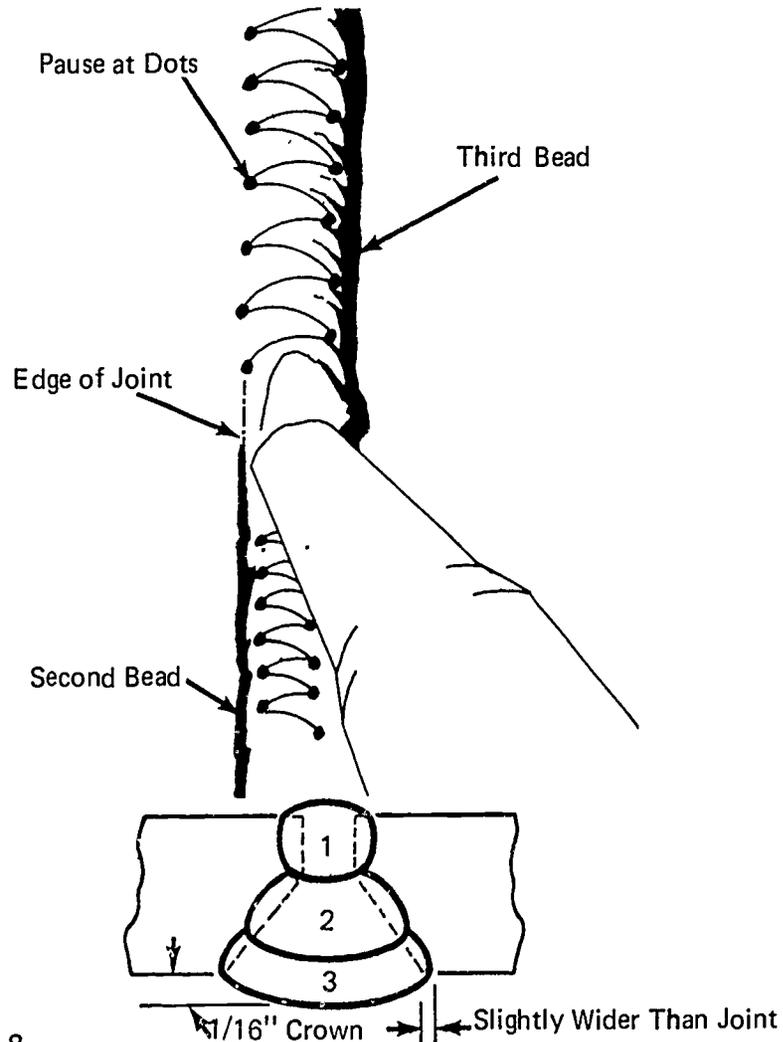

FIGURE 8
- K. For third pass, (cover pass) use same technique as second pass, but use wider weave motion to produce a weld bead slightly wider than width of joint (approximately $1/16''$ wider) (Figure 8)